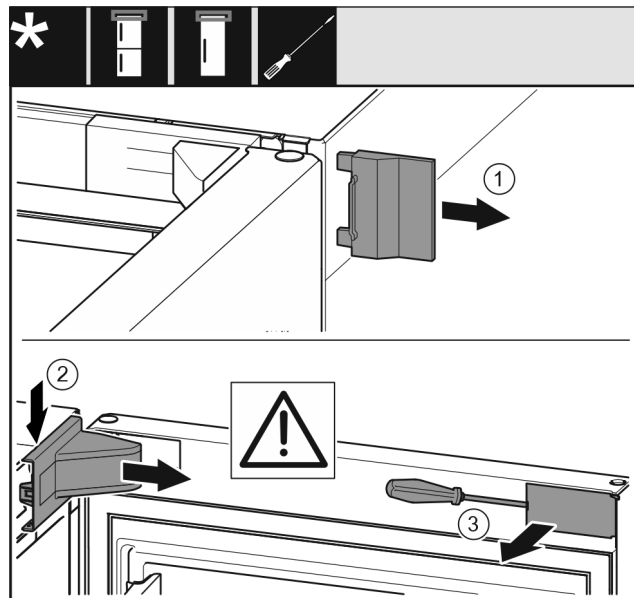

Fig. 11
- Remove the outer cover Fig. 11 (1).
- Snap out the swap bearing block cover Fig. 11 (2) and remove it.
- Use a slotted screwdriver to snap out the faceplate Fig. 11 (3) and swivel it to the side.